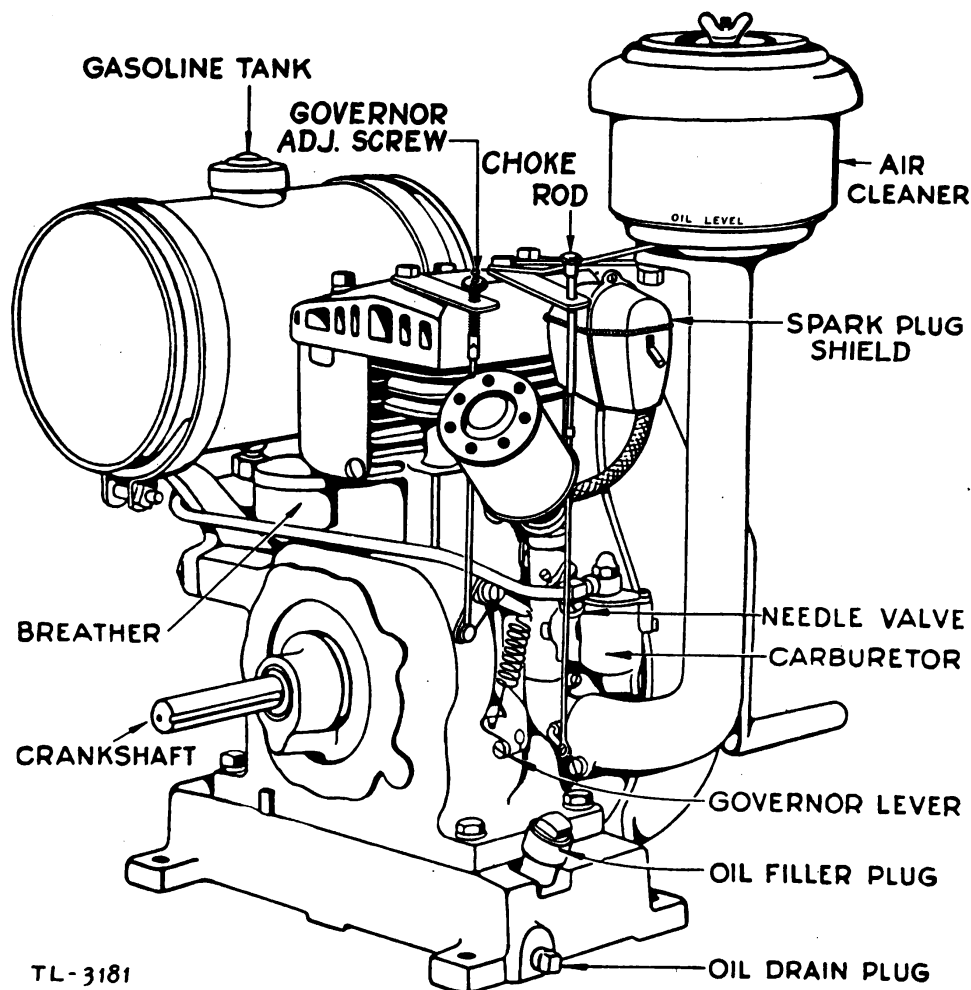

FIGURE 5.—Power unit PE-HC-43—engine details.
5. Pull the choke rod to close the choke partly (fig. 5).
(c) *PE-HC-43*, *PE-HD-43*, *PE-HE-43*.—Press the switch which is mounted on the spark plug shield (fig. 5) and hold until engine stops.
(3) *Power units PE-HC-43, PE-HD-43, and PE-HE-43 voltage regulation.*—The voltage delivered by these power units depends upon the speed of the engine, which is controlled by the governor spring tension. The governor has been tested and set for an operating speed of 2,350 rpm with the generator delivering full load. This adjustment should not be disturbed unless further adjustment is necessary. In this case turn the knurled nut on the governor adjusting screw clockwise to increase speed, or counterclockwise to reduce speed (fig. 5).